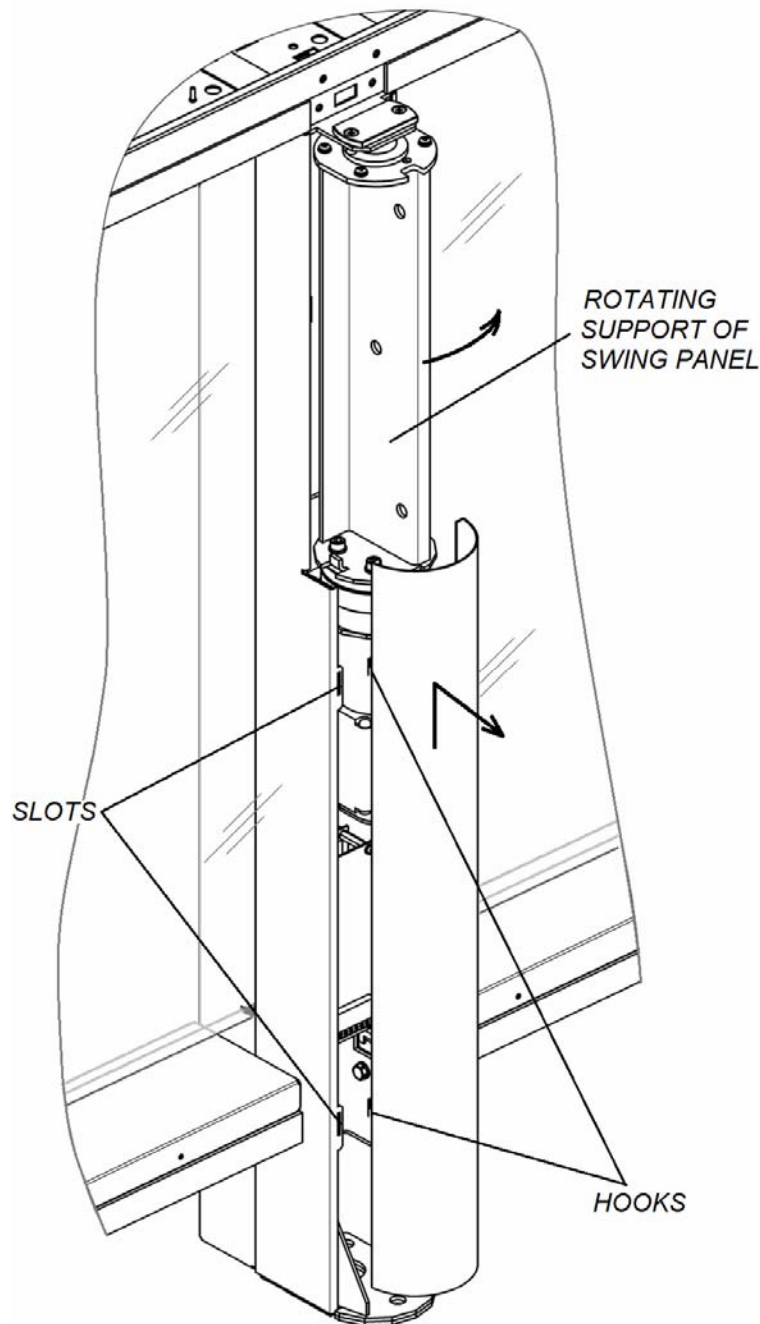

Figure 18. Central post cover plate disassembly
To remove the central post cover plate (5) turn the rotating support of swing panel to an end right point, pull the cover plate up along the post, take it aside from the post, bringing the hooks from slots in the central post (Fig. 18).